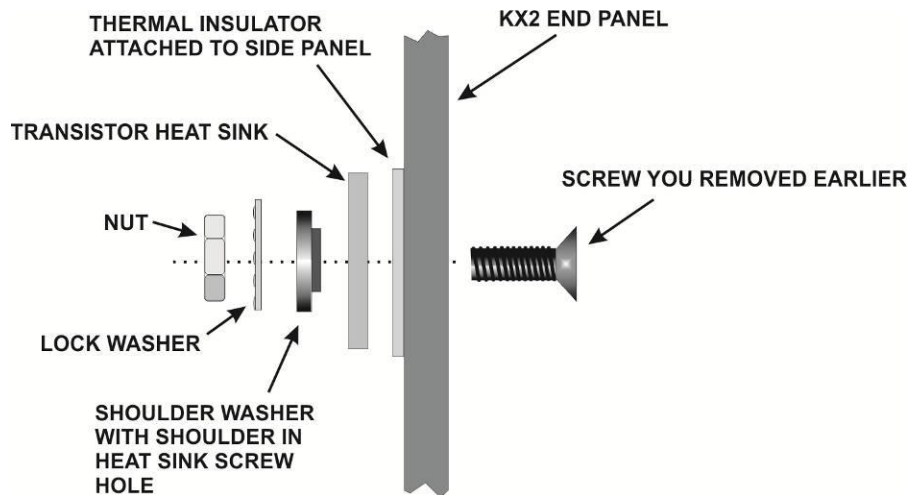

Figure 6. New Transistor Mounting Hardware.
- ☐ Use the new shoulder washers, 4-40 nuts and interior tooth lock washers to reattach the transistor heat sinks as shown in Figure 6. This hardware replaces the nuts with captive washers you removed. They will not be used. A magnetized screwdriver can help hold the lock washer on the screw while starting the nut, especially if the KXAT2 ATU is installed.